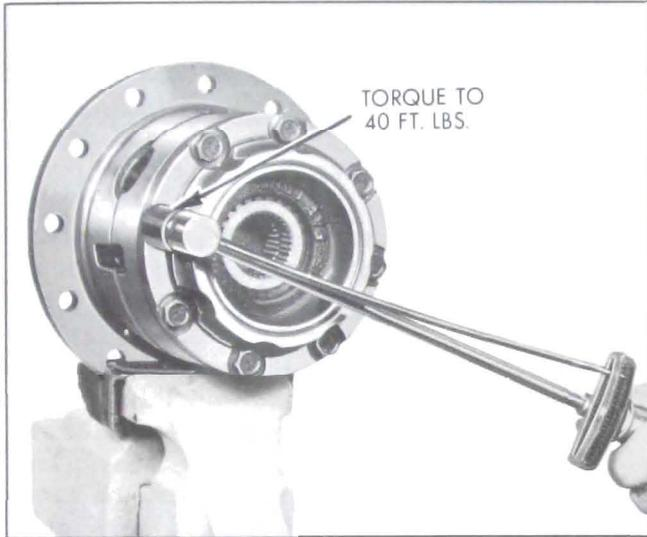

Figure 6-40—Torquing Differential Bolts
9. Install eight cover to flange half bolts and tighten evenly and alternately to 40 ft. lbs. torque. See Figure 6-40.